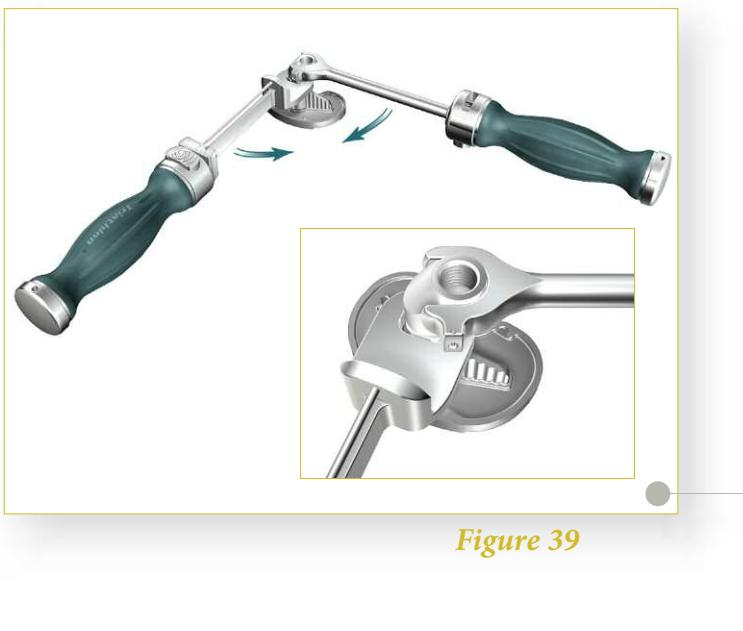

Figure 39
Note: If not using a stem, re-torque end cap to 120 in-lbs using the Torque Wrench as indicated in **Figure 39**.
- ▶ Tighten by pulling the wrenches TOGETHER. Torque to 120 in-lbs as indicated on the Torque Wrench. (Figure 39)